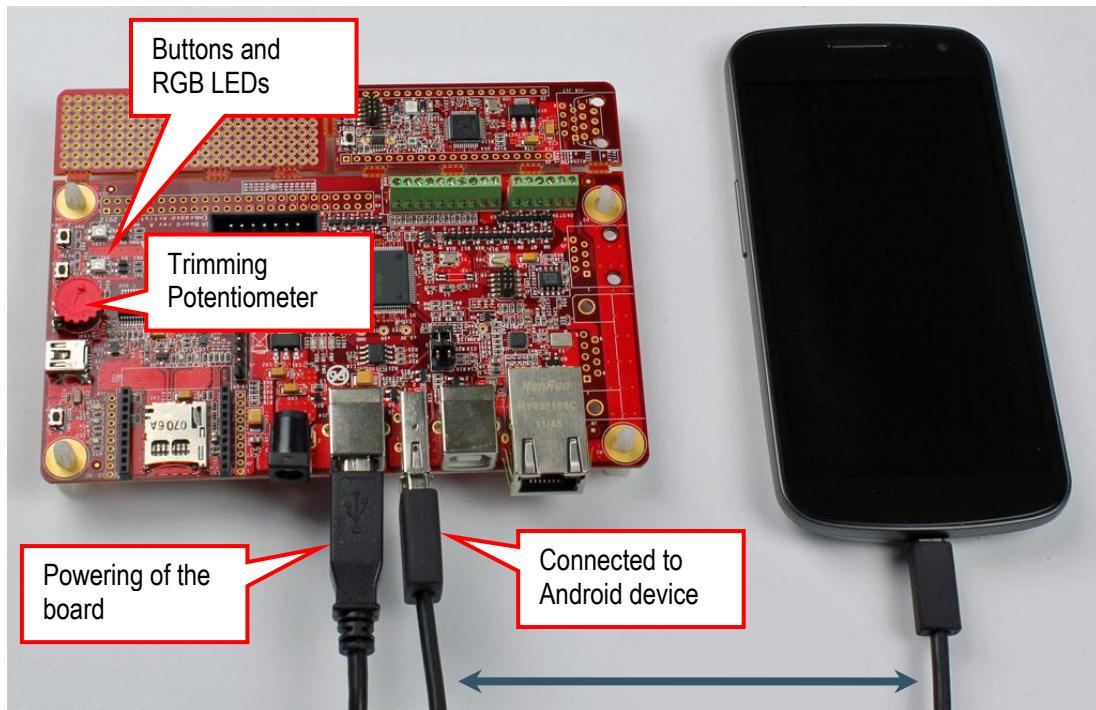

Figure 3 - AOAA Board: Basic Demo
This demo shows how to send data in both directions between the AOAA Board and the Android device. The AOAA Board has two buttons; two RGB LEDs and a trimming potentiometer (see Figure 3). The LEDs are controlled from an Android application that will also display the state of the button and the value of the trimming potentiometer
- 2) Connect the Android device to the AOAA Board as shown in Figure 3.
- 6) Connect the Android device to the AOAA Board as shown in Figure 3.